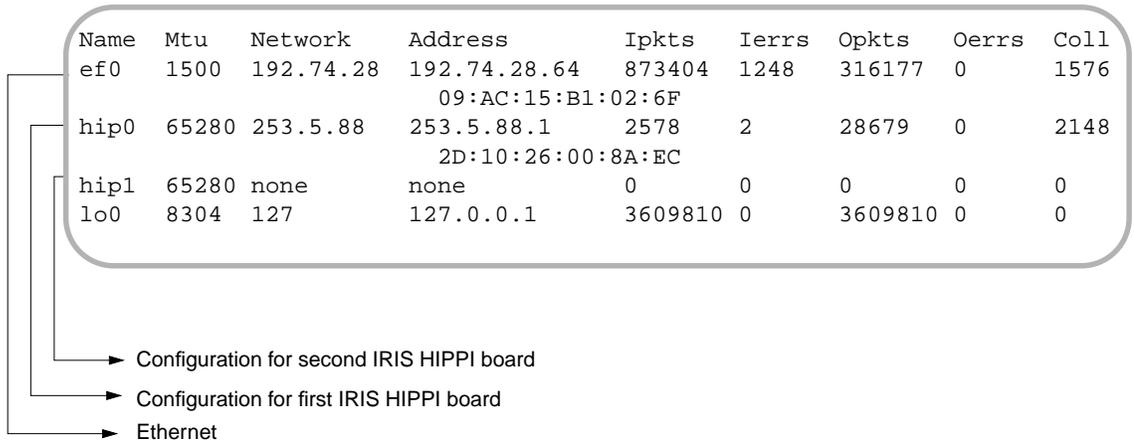

Figure 3-4 The `/usr/etc/netstat -ina` Display
1. Obtain the IP network addresses for all the IRIS HIPPI boards on this system. This information can be displayed with the command shown below. The network address is listed in the column labelled `Network`, as illustrated in Figure 3-4.
where `hip#_networkaddress` values are the addresses from the `Network` column of the `netstat` display (illustrated in Figure 3-4).